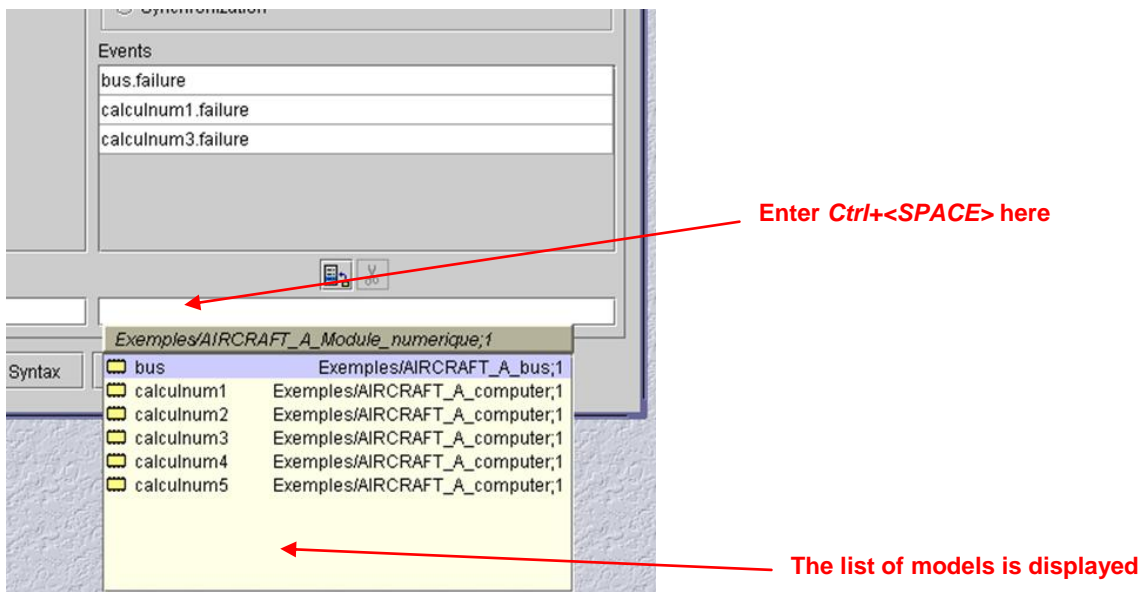

Figure 106: Selecting a model with Ctrl+<SPACE>
- ◆ Use the shortcut **Ctrl+<SPACE>** to display the models of the equipment content (Figure 106)